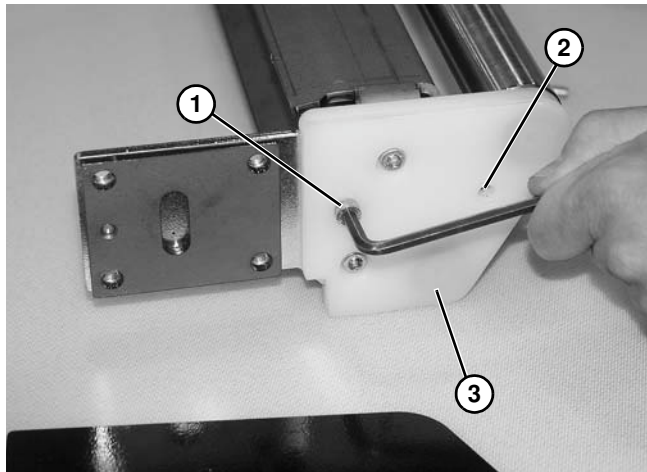

Figure 133
7. Remove screw (Figure 133, item 1) and screw (Figure 133, item 2) that holds spacer plate (Figure 133, item 3) in place.